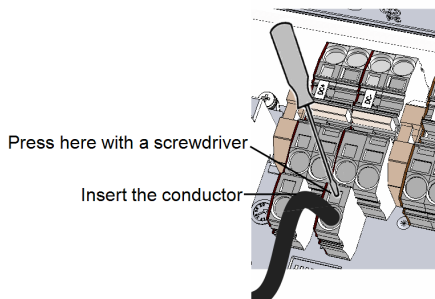

Figure 17: DC Spring-clamp terminals
- Insert the wire into the top opening (see *Figure 17*).